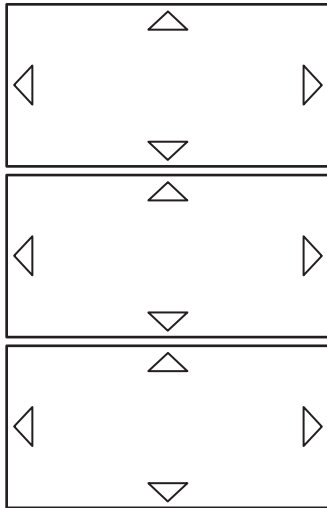

Figure 4.7a: Rigidly fixed panels with movement gaps at joints
- If the panels are to be rigidly fixed (eg by adhesive or screws at relatively close centres) to their substrate, a 3mm gap should be left at all edges of each panel (except softboard where no gap is normally required), see *Figure 4.7a*.